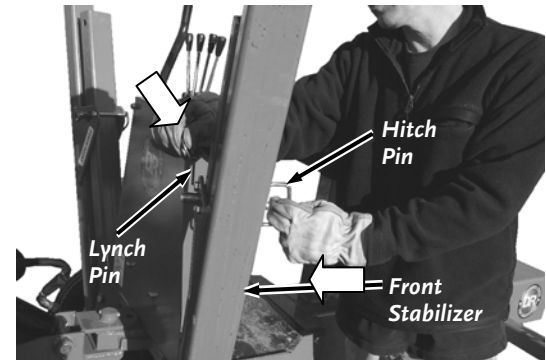

Figure 22
4. Raise the Front Stabilizers to the Vertical position (**Figure 22**).